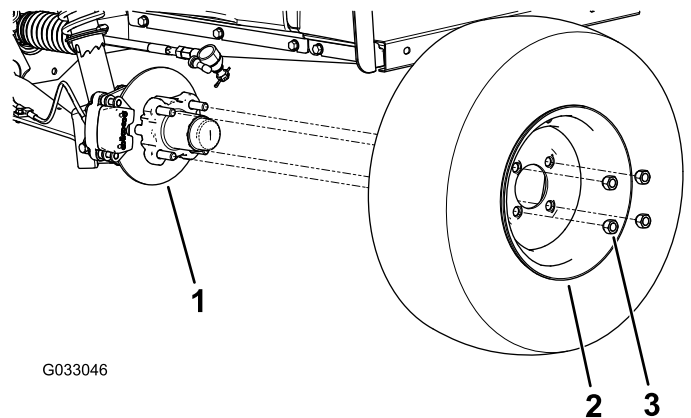

Figure 29
2. Remove the 4 lug nuts that secure the wheel to the hub (Figure 29).
4. Align the holes in the wheel to the studs of the hub and assemble the wheel to the hub with the valve stem outward (Figure 29).
5. Secure the wheel to the hub with the lug nuts (Figure 29), and torque the nuts to 108 to 122 N·m (80 to 90 ft-lb).